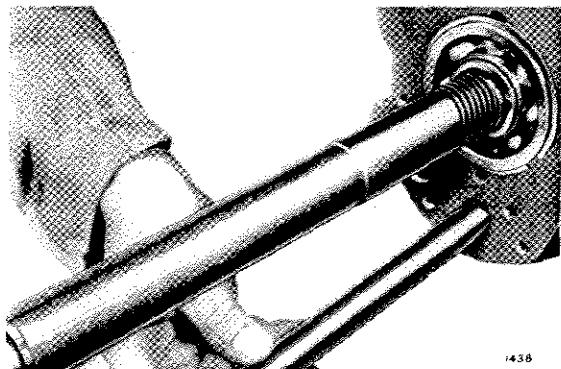

Fig. 30. Using tapered pilot, Tool No. 20.SM.76, to align the countershaft prior to installing the layshaft
Insert a tapered pilot tool 20SM.76, as shown in Fig. 30, to align the countershaft and thrust washers. Insert countershaft (51) and eject the pilot tool. Engage the end of the countershaft and reverse gear shafts with the keeper plate (58) and secure with the screw (59). Fit and secure the countershaft cover gasket (88) and cover plate (85) with washers (87) and bolts (86).